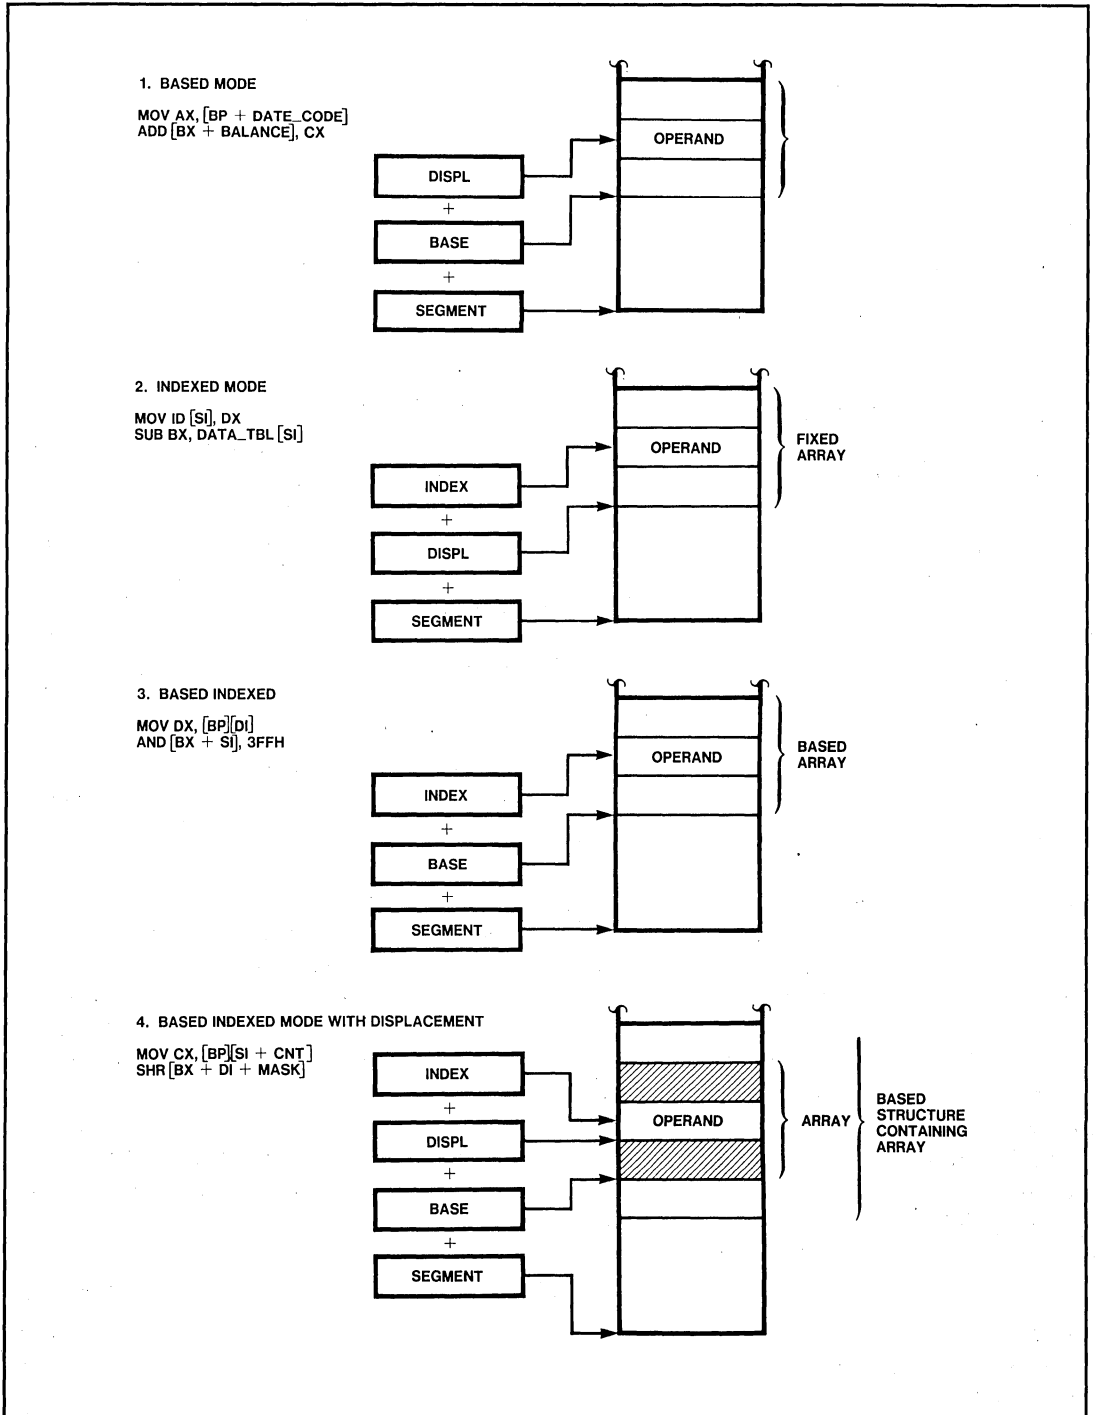

Figure 2-13. Complex Addressing Modes
The following four modes are used for accessing complex data structures in memory (see figure 2-13):
- **Based Mode.** The operand is located within the selected segment at an offset computed as the sum of the displacement and the contents of a base register (BX or BP). Based mode is often used to access the same field in different copies of a structure (often called a record). The base register points to the base of the structure (hence the term "base" register), and the displacement selects a particular field. Corresponding fields within a collection of structures can be accessed simply by changing the base register. (See figure 2-13, example 1.)
array whose starting location is fixed at translation time). The displacement locates the beginning of the array, and the value of the index register selects one element. Since all array elements are the same length, simple arithmetic on the index register will select any element. (See figure 2-13, example 2.)
- **Based Indexed Mode.** The operand is located within the selected segment at an offset computed as the sum of the base register's contents and an index register's contents. Based Indexed mode is often used to access elements of a dynamic array (i.e., an array whose base address can change during execution). The base register points to the base of the array, and the value of the index register is used to select one element. (See figure 2-13, example 3.)
- **Based Indexed Mode with Displacement.** The operand is located with the selected segment at an offset computed as the sum of a base register's contents, an index register's contents, and the displacement. This mode is often used to access elements of an array within a structure. For example, the structure could be an activation record (i.e., a region of the stack containing the register contents, parameters, and variables associated with one instance of a procedure); and one variable could be an array. The base register points to the start of the activation record, the displacement expresses the distance from the start of the record to the beginning of the array variable, and the index register selects a particular element of the array. (See figure 2-13, example 4.)